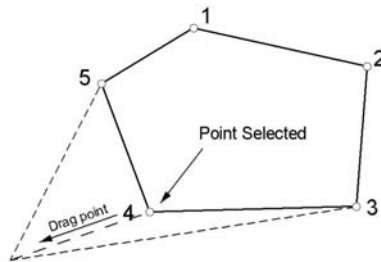

Figure 10-14. Point Dragged to a New Position with Lines Attached
Use the Move Point/Line command to move a point with any attached lines or a line with both its defining points and any lines attached to these two points (Figure 10-14 on page 10-13).
3. You can either drag the point or line to a new position as shown in Figure 10-14 or enter the bearing and distance in the input bar at the lower left of the display area.